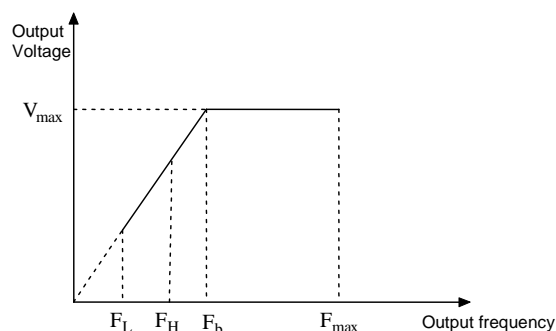

Fig.6-1 Characteristic parameters
Max output frequency is the highest permissible output frequency of the drive, as shown in Fig. 6-1 as  $F_{max}$ ;
Max output voltage is the highest permissible output voltage of the drive, as shown in Fig. 6-1 as  $V_{max}$
Upper limit of frequency is the highest permissible operating frequency of the user setting, as shown in Fig. 6-1 as  $F_H$ .
Lower limit of frequency is the lowest permissible operating frequency of the user setting,as shown in Fig.6-1 as  $F_L$ .
Basic operating frequency is the Min. frequency when the drive outputs the max voltage in V/F mode, as shown in Fig. 6-1 as  $F_b$
4. The Max. output frequency, upper limit frequency and lower limit frequency is as shown in Fig.6-1.